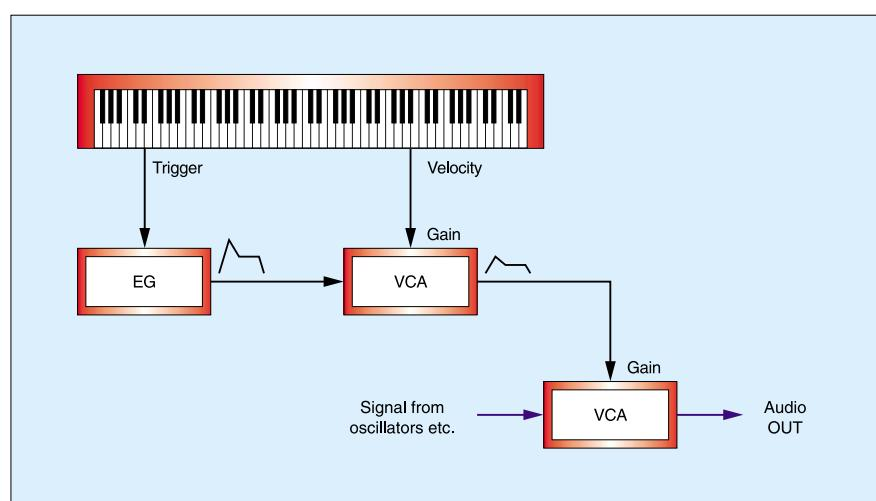
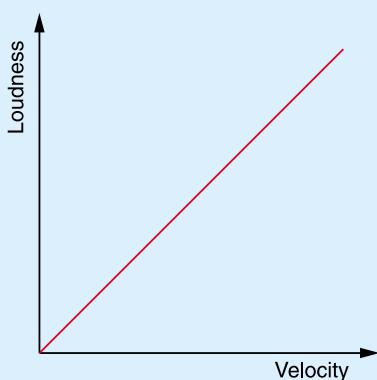

Figure 5: Using velocity to control the loudness of a sound.
Figure 6: As the velocity increases, the sound gets louder – here, a linear relationship is shown.
► audio signal path (as shown in Figure 5 on the previous page) so that there is a proportional relationship between velocity and Gain, then the greater the velocity, the greater the Gain, and the louder the resultant note (see Figure 6 above). This is broadly consistent with the physical mechanism shown in Figure 3(a).